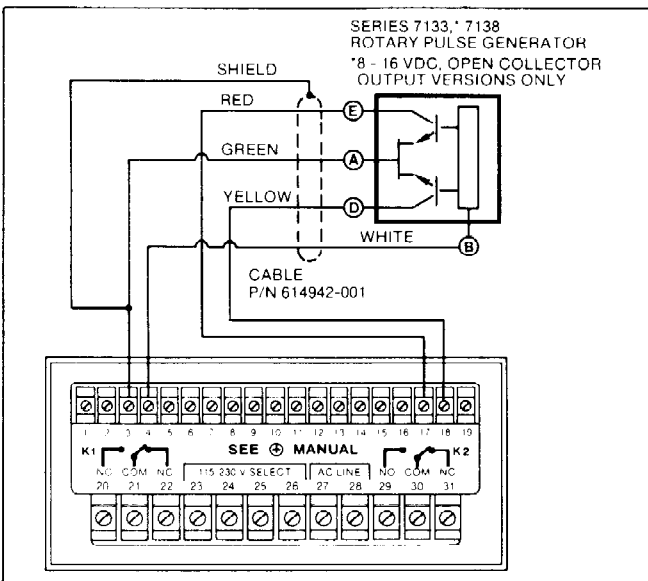

Figure 4-13. Connection of a Veeder-Root Series 7133, 7138 Bidirectional Rotary Pulse Generator.
c. For connection of a Veeder-Root Series 7133, 7138 Bidirectional Rotary Pulse Generator, refer to Figure 4-13. Quadrature input method must be programmed per Section 5.